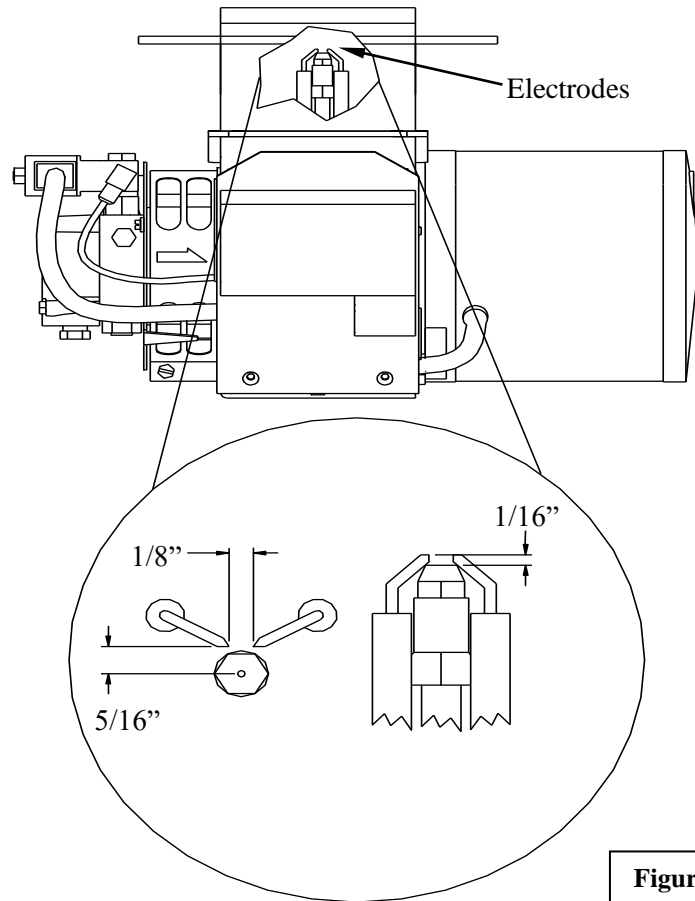

Figure 24
4) Reset the spacing, as shown below in Figure 24.